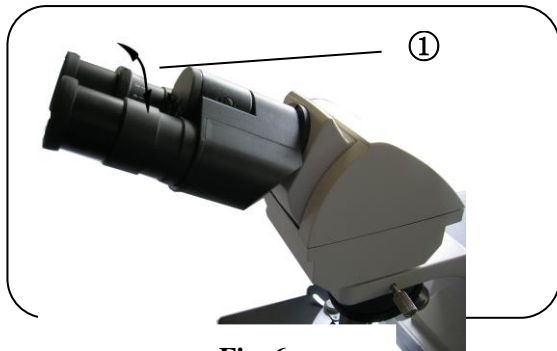

Fig. 6.
6. Diopter adjustment (Fig. 6.)